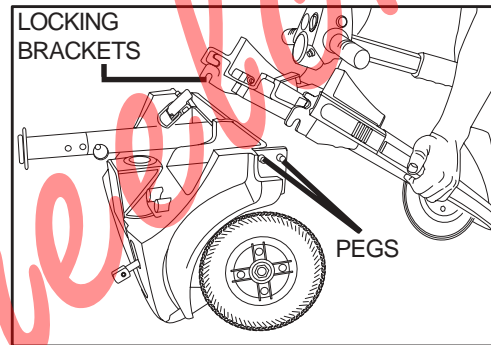

Figure 20. Frame Separation
2. Lift the front section up until the rear pegs are no longer in the locking brackets. See figure 20.
1. Position the front and rear sections of your scooter as shown in figure 20.